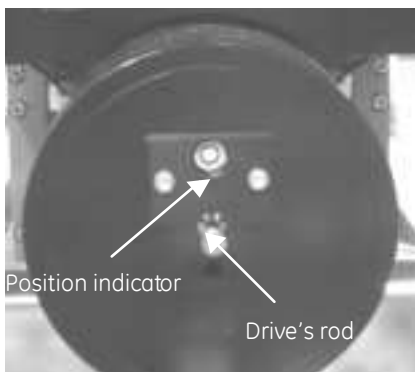

Fig. 13 Position indicator
- "O" - means contacts are open; "I" - means contacts are closed [Fig. 13].